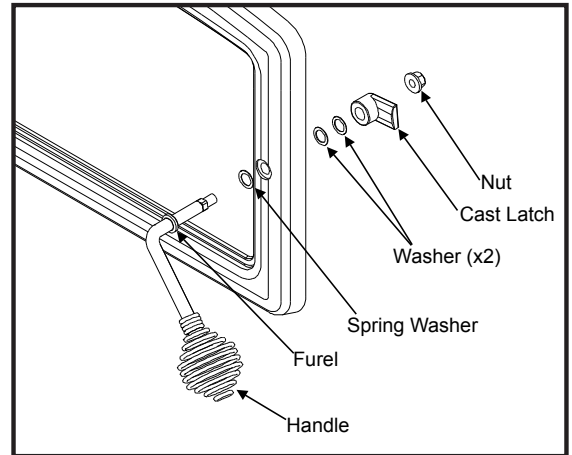

Figure 44: Installation Door Handle Hardware.
1. Install door handle as shown in Figure 44.